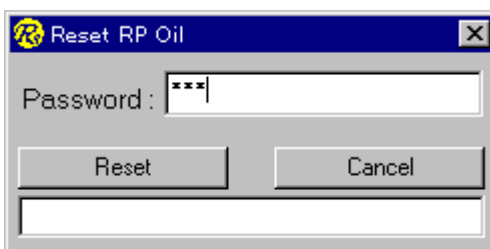

Figure 8-16: Password Entry Screen
1. Pressing the [Set] button brings up the password entry screen (**Figure 8-16**).